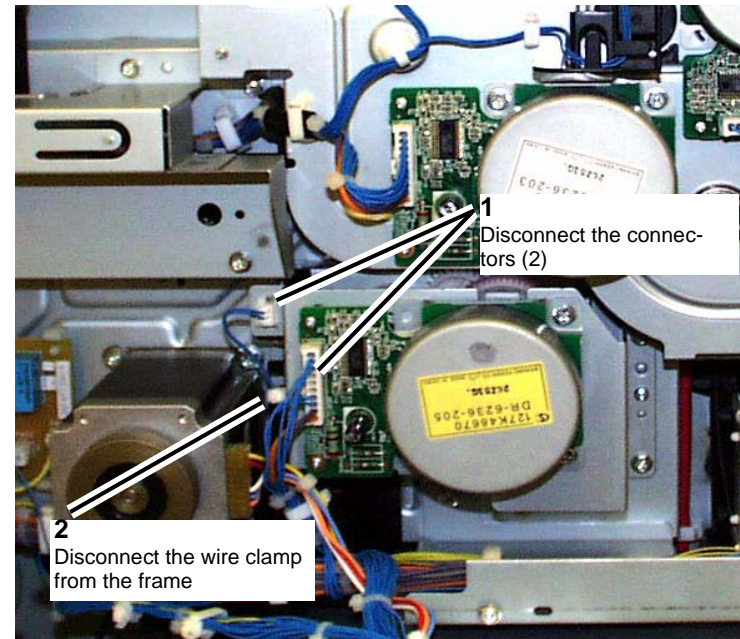

Figure 1 Disconnecting the connectors (2)
5. Disconnect the connectors (2). (Figure 1)